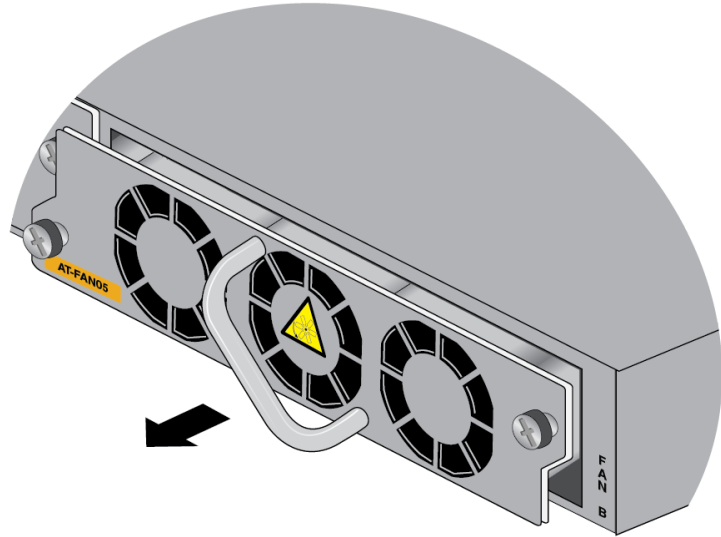

Figure 140. Disconnecting the FAN05 Module from the Switch
2. Carefully pull on the handle to disconnect the line card from the internal connector in the switch. Refer to Figure 140.